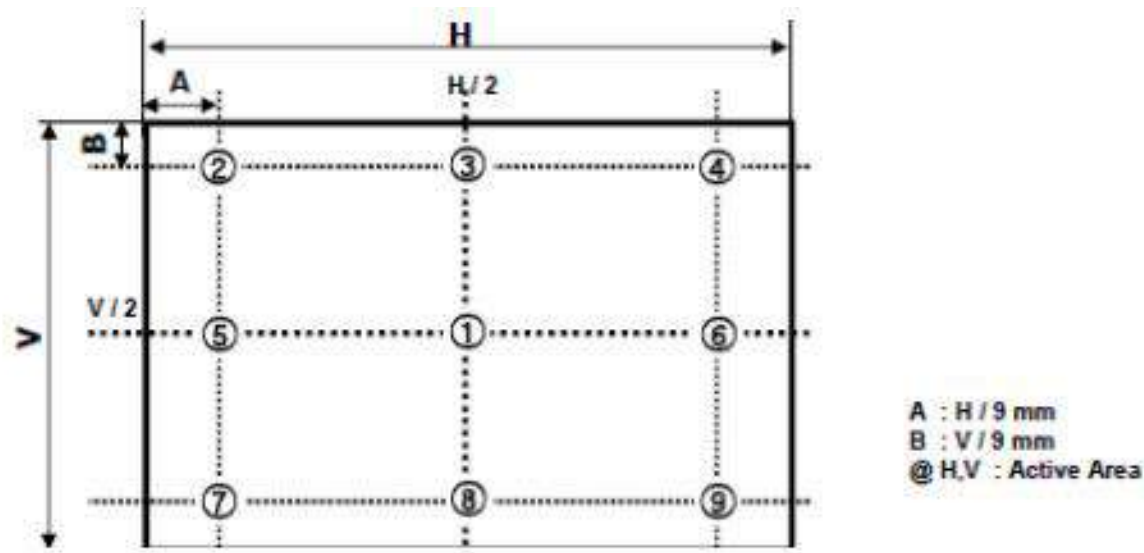

FIG. 2 9 Points for Luminance Measure
3. Surface luminance are determined after the unit has been ‘ON’ and 1 Hour after lighting the backlight in a dark environment at $25 \pm 2^{\circ}\text{C}$. Surface luminance is the luminance value at center 1-point across the LCD surface 50cm from the surface with all pixels displaying white. For more information see the FIG. 2.
For more information, see the FIG. 2.